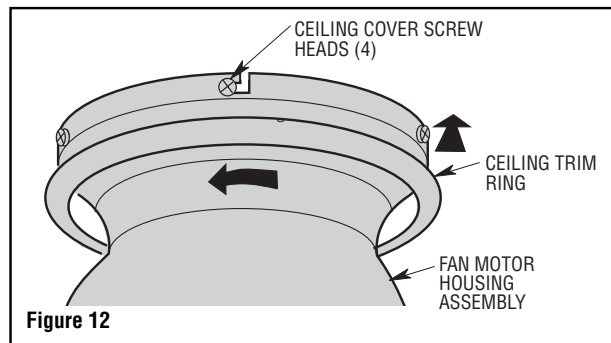

Figure 12
- Position the ceiling trim ring over each of the protruding ceiling cover screw heads and rotate the ceiling trim ring clockwise to secure (Figure 12).